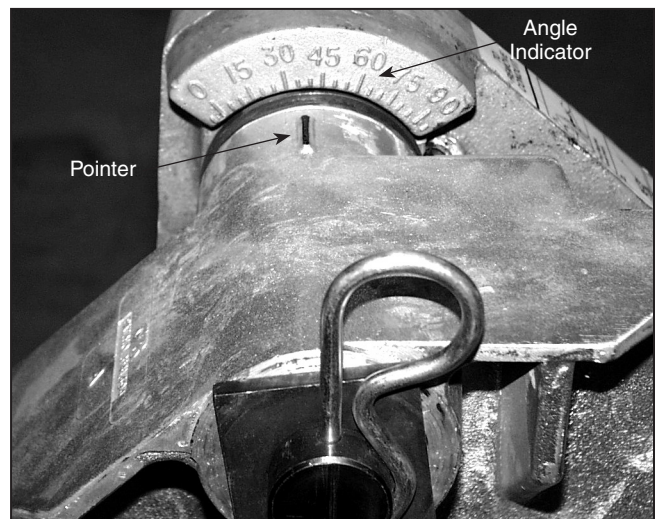

Fig. 12
- Using the 1" pipe, pull the ratchet down to begin bending, check the angle indicator (on the frame) and the pointer on the shoe to determine what degree of bend has been accomplished, figure 12. Repeat raising and lowering the ratchet as often as needed to make the desired bend.